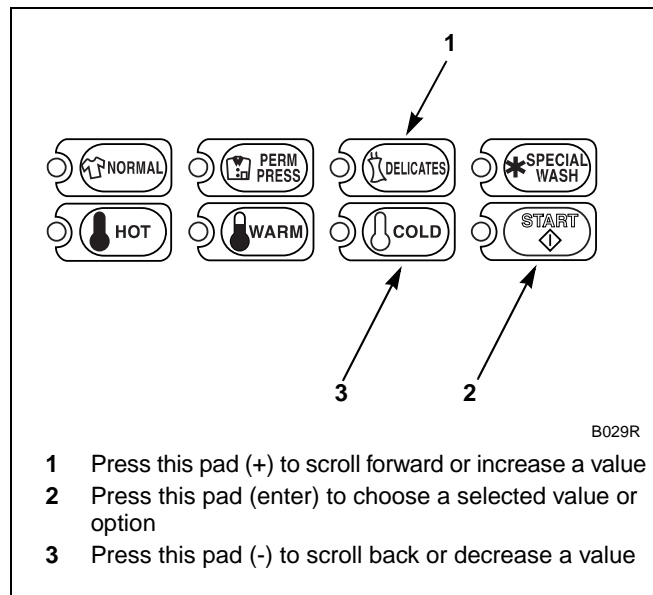

Figure 40
- Press the DELICATES (+) or the COLD (-) keypad to increase or decrease the current number until correct. Refer to *Figure 40*.